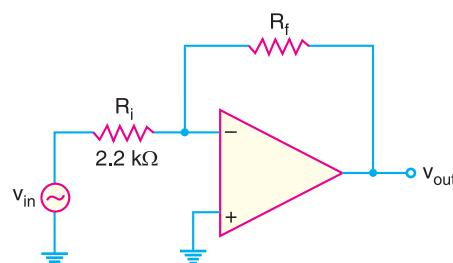

Fig. 25.49
**Example 25.25.** Given the *OP-amp* configuration in Fig. 25.49, determine the value of  $R_f$  required to produce a closed-loop voltage gain of  $-100$ .